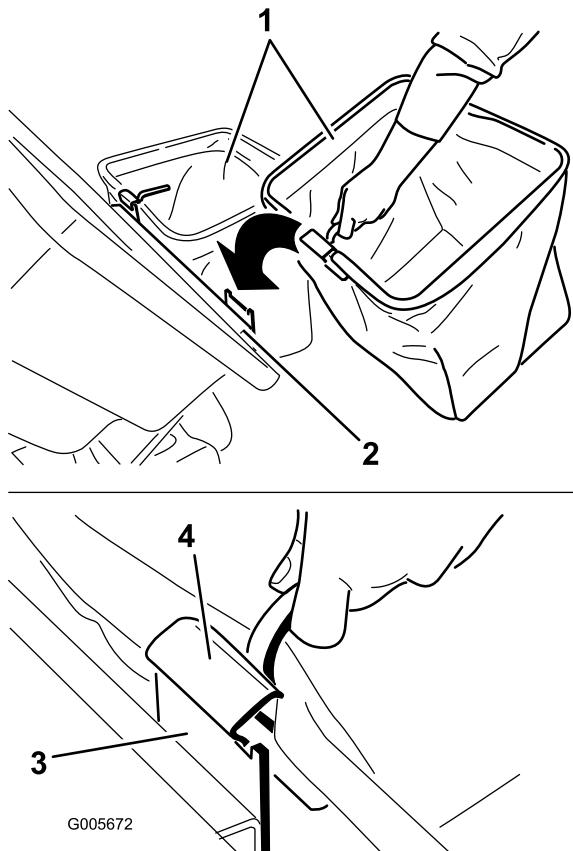

Figure 14
2. Lift the bagger top and install the bags by sliding the bag frame hooks onto the retaining brackets (Figure 14).